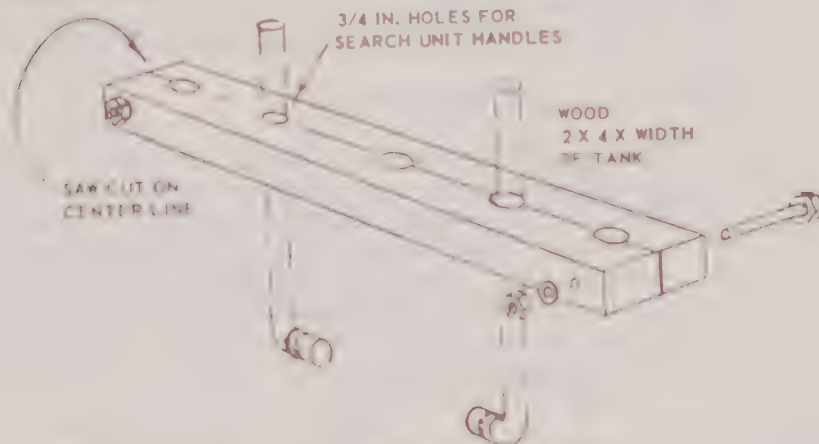

Figure 3-30 S.U. Positioning Fixture
- (1) Standard 6' 4" search cable.
- (2) Search unit handle
- (3) Two right angle adapters.
- (4) Search units (both of the same frequency).
- (5) A fixture to hold search handles in place (Figure 3-30). This is a suggested method of securing two search units on the tank if two positioners are not available.